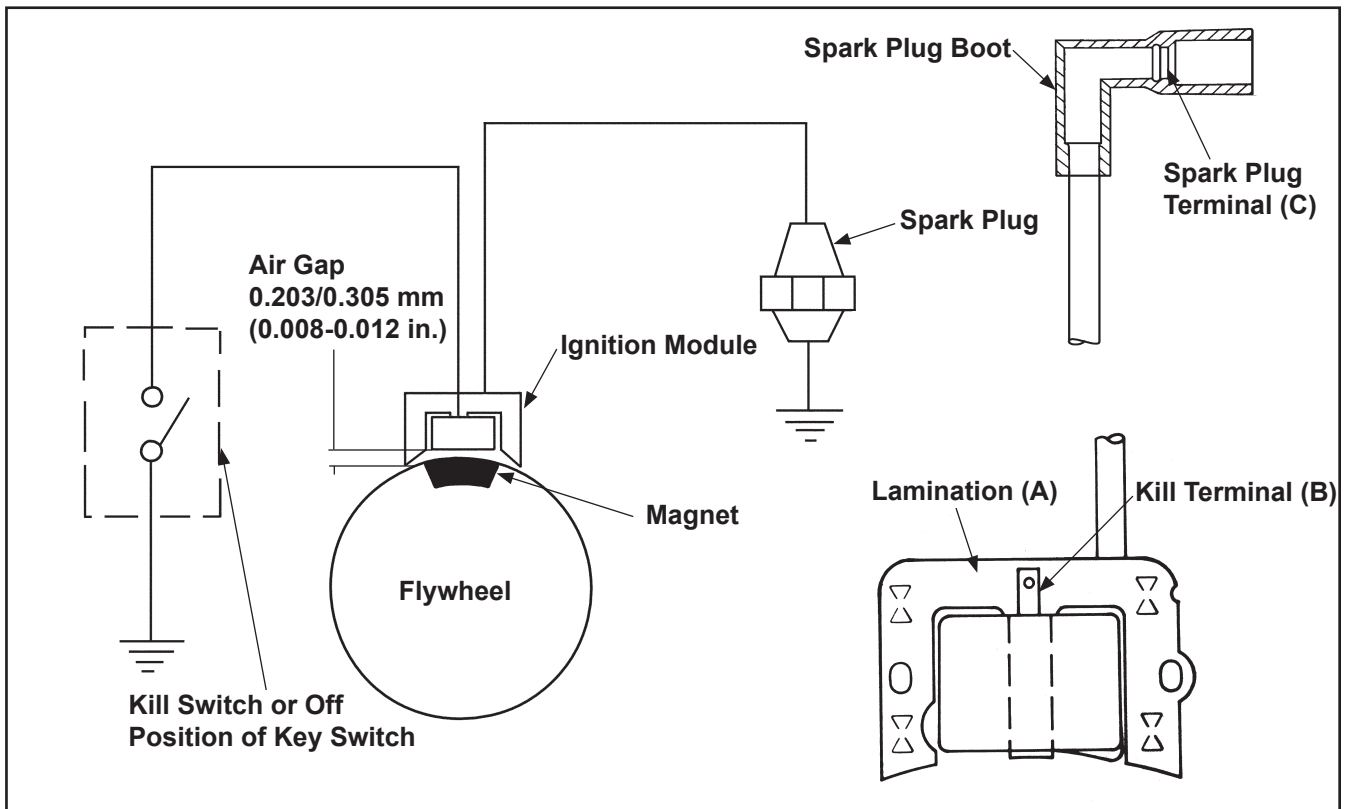

Figure 7-2. Electronic CD Ignition System.
4. Measure the resistance of module secondary using an ohmmeter (see Figures 7-2 and 7-5): Zero ohmmeter before testing. Connect one ohmmeter lead to laminations (A). Connect the other lead to the spark plug terminal (C) of high-tension lead. With the ohmmeter leads connected in this manner, the resistance of secondary should be 7,900 to 18,400 ohms . NOTE: This test cannot be performed unless module has been fired at least once.	4. If the resistance is low or 0 ohms , the module secondary is shorted. Replace the module.* If the resistance is high or infinity ohms , the module secondary is open. Replace the module.* If the resistance is within the specified range, the module secondary is OK.  *Refer to the Disassembly and Reassembly Sections for complete ignition module removal and installation procedures.